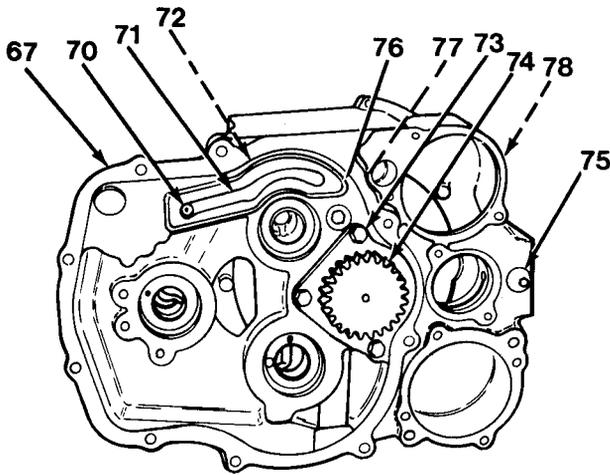

Figure 11-18
6. Install breather (78) and new relief valve assembly (77) to front cover (67, Figure 11-18). Tap new relief valve assembly (77) into place.
7. Install pipe plugs (76) and (75).
8. Install input shaft group (74) and three cap screws (73).
9. Install seal ring (72), oil passage cover (71) and three capscrews (70) to front cover (67).